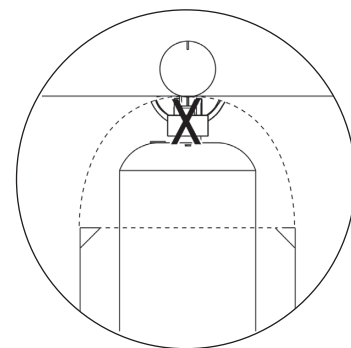

Figure 10
4. Please refer to diagram for proper installation (see Figure 10).
3. Apply the leak detection check solution on the “X” location as shown (see Figure 10).